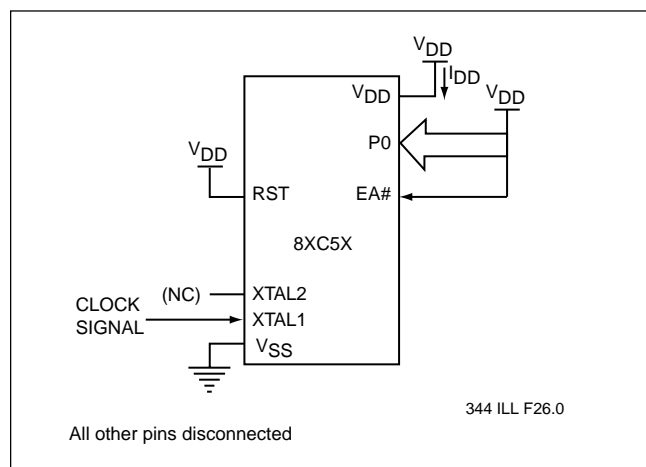

FIGURE 22: I_{DD} TEST CONDITION, ACTIVE MODE
- See Figures 22, 23, 24 and 25 for test conditions. Minimum V_{DD} for Power Down is 2.7V.